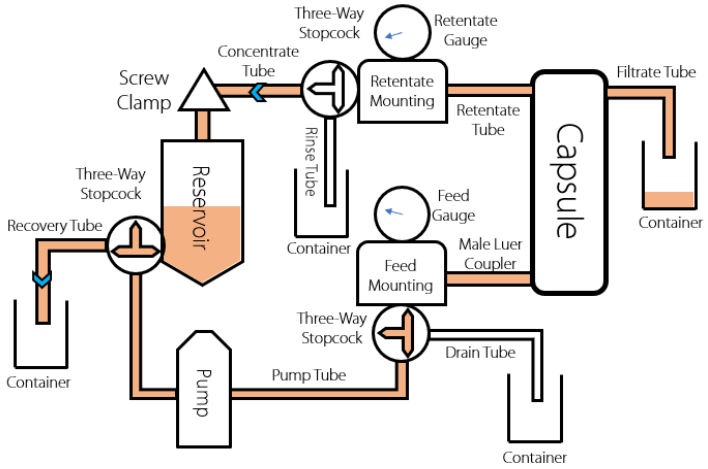

Figure 2
- When the pump is stopped, setting the three-way stopcocks as shown in figure 2.